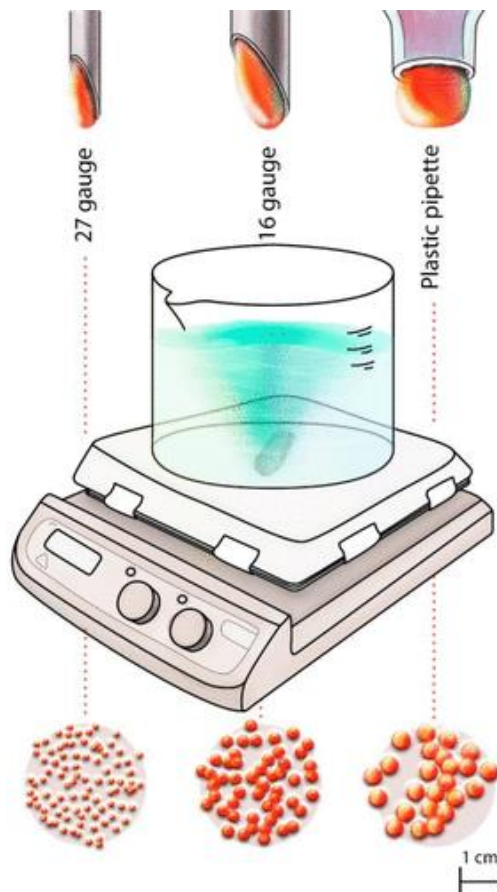

Figure 1. Schematic representation of the alginate bead synthesis using droppers various opening sizes (27- and 16 gauge syringe needles and a pipet tip).
**Figure 1.** Swelling of a drug delivery hydrogel in response to various chemical and physical stimuli. Red and yellow lines indicate the interwoven matrix structure of a hydrogel, with the yellow dots representing drug molecules. Source: *Pharmaceutics* **2018**, 10, 71.
Students will learn how to regulate the size of alginate beads by varying dropper diameter. Students produce alginate beads by extrusion dripping of alginate solution (0.5 wt %) into a curing solution of  $\text{CaCl}_2$  (1 wt %) using a plastic pipet and syringes with 16- and 27-gauge needles (Figure 1). Erythrosine B, a red coloring dye, was added to the polymer solution at a concentration of 1 mg/mL for improved visualization and precise determination of the size of alginate beads. When the polymer drop enters the  $\text{CaCl}_2$  solution, positively charged  $\text{Ca}^{2+}$  ions interact with the negatively charged carboxylic groups ( $\text{COO}^-$ ) of alginic acid, resulting in ionic cross-linking of the alginate polymer. Once cross-linked, calcium-cross-linked hydrogels have been proven to have no or minimal deleterious effect on cell viability and proliferation. Students retrieve the alginate beads from the solution via filtration and take a picture of the beads adjacent to a ruler.